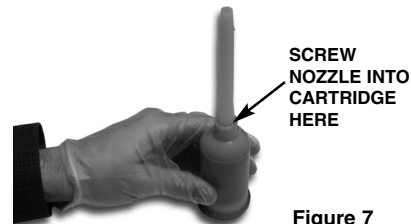

Figure 7
11. Screw nozzle onto cartridge where mixing rod was removed. See Figure 7.